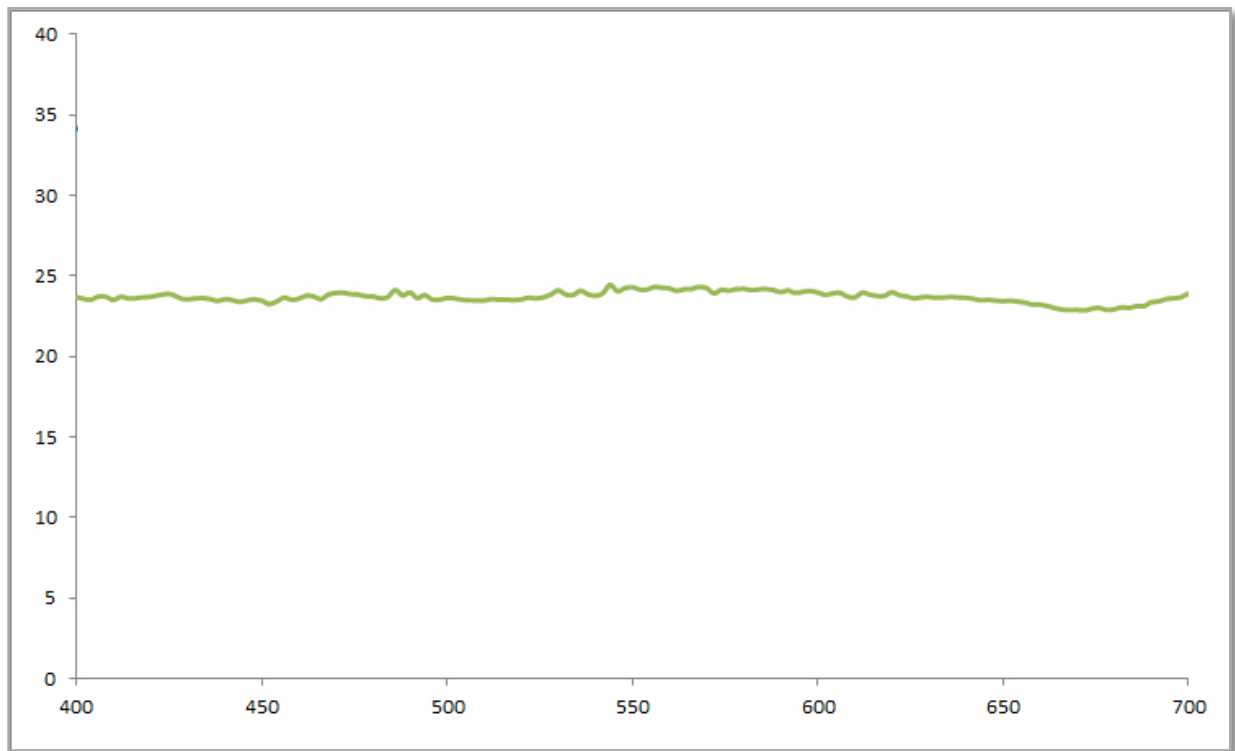

Figure 6. Energy throughput spectrum of the 60Spec.
5. The throughput value at 500 nm for the 60Spec specular reflectance accessories should be greater than 15%. An example of a typical throughput spectrum using the 60Spec collected is shown in Figure 6.